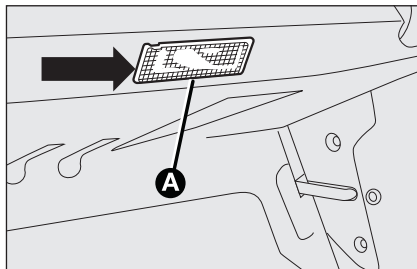

fig. 42
- remove the light unit **A**-fig. 42 levering in the point shown by the arrow;